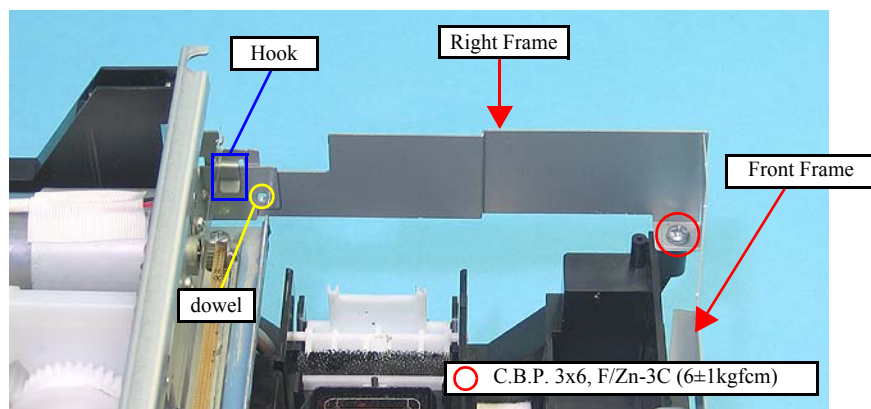

Figure 4-61. Removing the Front Frame/Right Frame (3)
- As shown in Figure 4-61 secure the Front Frame and Right Frame together with the screw. (Place the Right Frame on top of the Front Frame.)